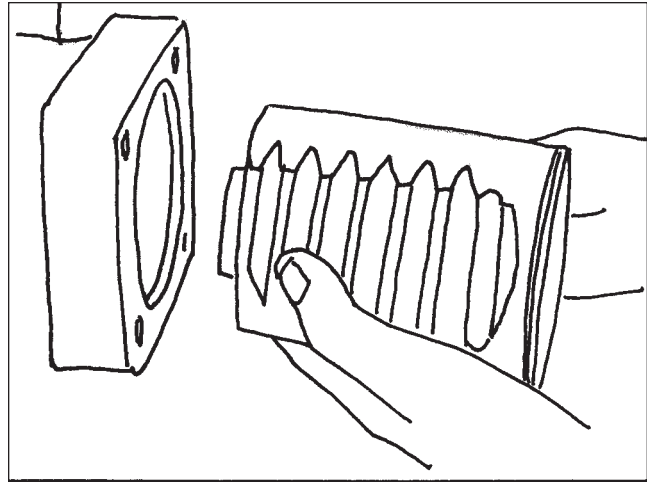

Figure 108
18. Carefully slide the piston from the housing (Figure 108).